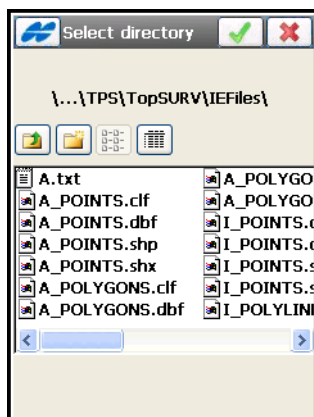

Figure 5-9. Select Directory
2. Choose the location for the imported file, then tap the ok ☒ button. The **Select directory** screen displays (Figure 5-9 on page 5-6).